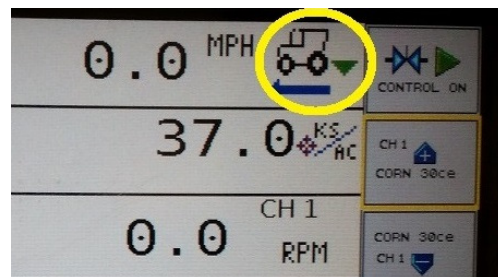

Figure 66
Step 8. Rock foot switch forward or turn on. Green indicator arrow should point down. (Figure 66)